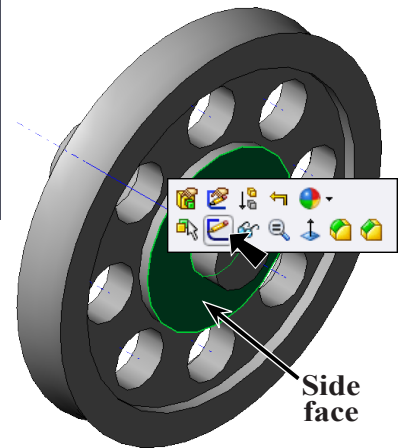

Fig. 30
click OK  in the Property Manager, **Fig. 30**.
Step 1. Click **side face of wheel cap** and click **Sketch**  on the Content menu, **Fig. 30**.